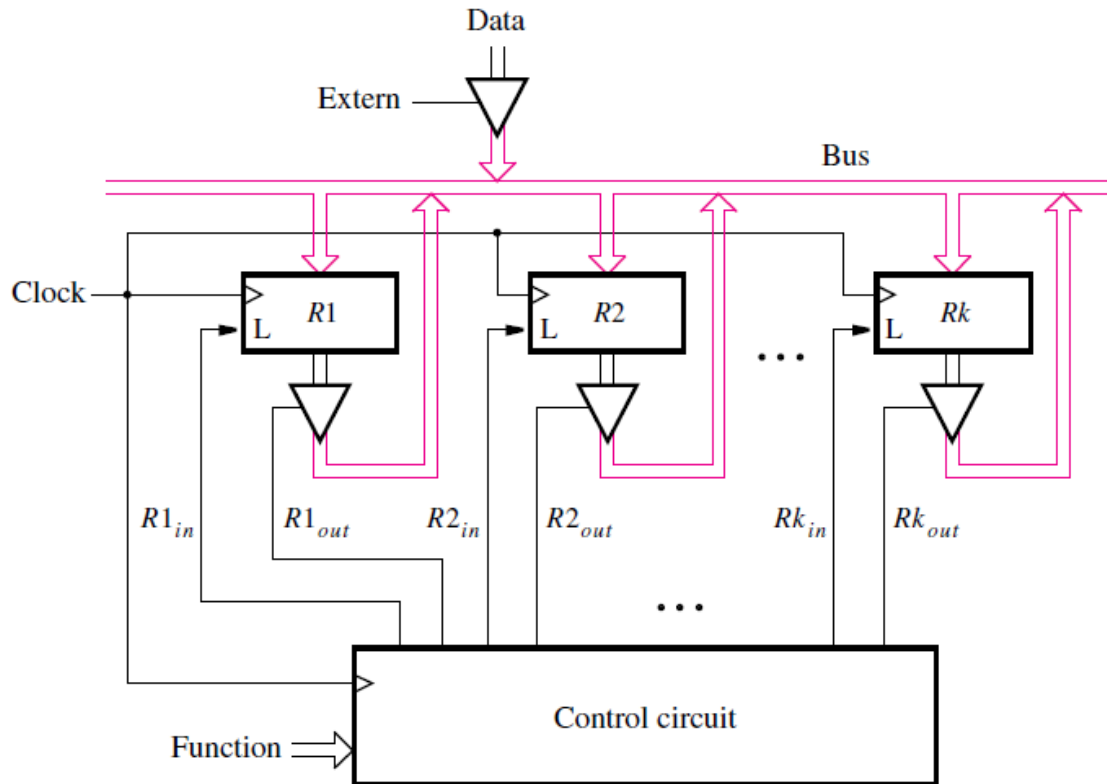

Fig 12.1 A digital system with k registers.
- Consider a system that contains k n-bit registers, R1 to Rk. Figure 12.1 shows how these registers can be connected using tri-state drivers to implement the bus structure. The data outputs of each register are connected to tri-state drivers. When selected by their enable signals, the drivers place the contents of the corresponding register onto the bus wires. The enable signals are generated by a control circuit.
- In general, the control circuit could perform a number of functions, such as transferring the data stored in one register into another register and controlling the processing of data in various functional units of the system. Figure 12.1 shows an input signal named Function that instructs the control circuit to perform a particular task. The control circuit is synchronized by a clock input, which is the same clock signal that controls the k registers.